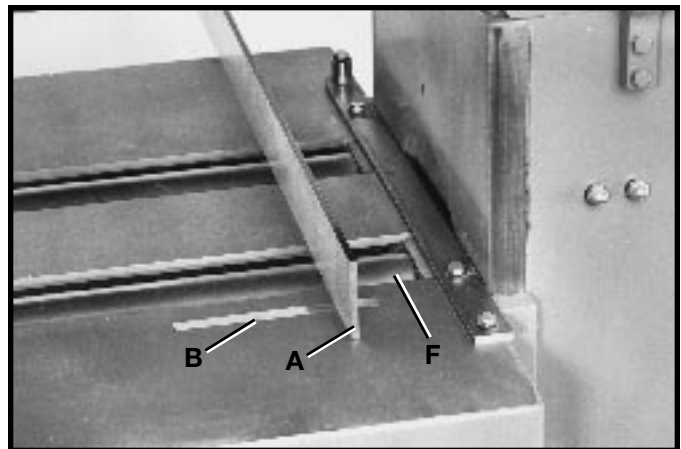

Fig. 25
6. To check the height of the outfeed table roll, proceed as follows: with a feeler gage (B) Fig. 25, measure the gap between the table surface and the straight edge (A) near the outfeed roll (F).